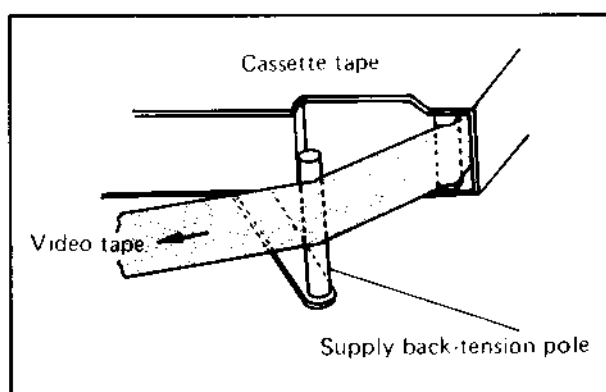

Fig. 4-31
2. While tape is traveling, check for absence of wrinkling at the outlet of the cassette tape and the supply back tension pole as shown in Fig. 4-31.